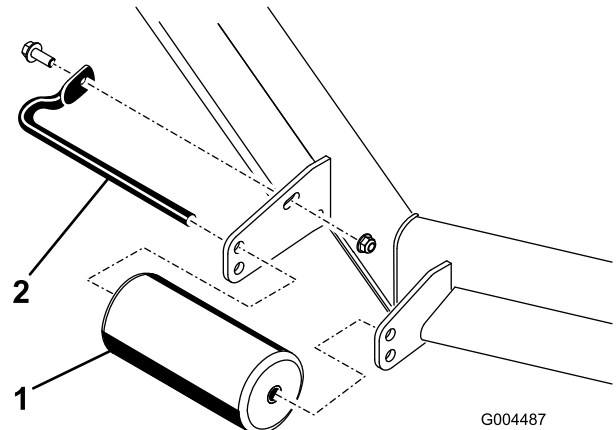

Figure 25
4. Remove the fasteners securing each roller on your mower deck and move the rollers up or down as desired (Figure 25 through Figure 27).